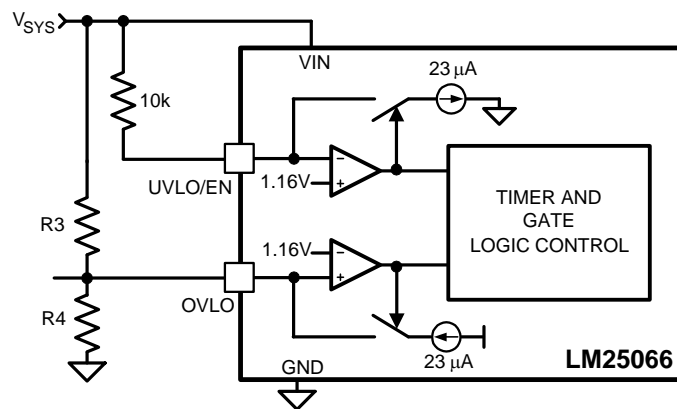

Figure 44. UVLO = POR
**Option C:** The minimum UVLO level is obtained by connecting the UVLO/EN pin to VIN as shown in Figure 44. Q1 is switched on when the VIN voltage reaches the POR threshold (≈2.6V). The OVLO thresholds are set using R3, R4. Their values are calculated using the procedure in Option B.